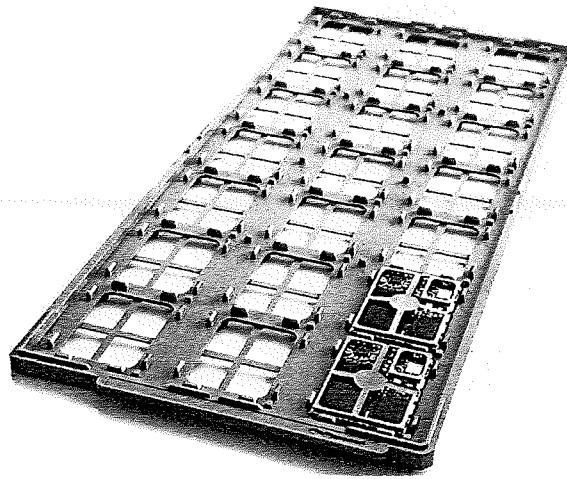

Figure 3 : Plastic product
5. (a). Two engineers are given a task to design an injection moulding mould for their company new product (Figure 3 with dimension of 30 cm x 10 cm and thickness of 2 mm). Engineer A wants to use one gate in the design while engineer B decided to use two gates.
- (ii). Explain two (2) problems that will occur if one gate or two gate is used ?
- (ii). *Jelaskan dua (2) masalah yang akan berlaku jika satu pintu atau dua pintu digunakan?*